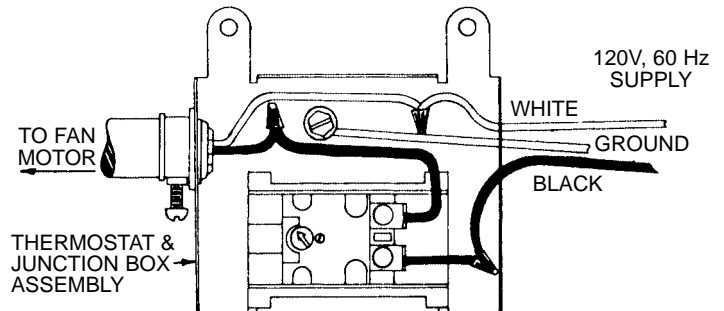

Figure 6 — Wiring Diagram
3. For standard installation, connect the two leads in thermostat/junction box to the two supply leads. Attach ground wire from the supply to the green ground screw in the box. (See Fig. 6.)